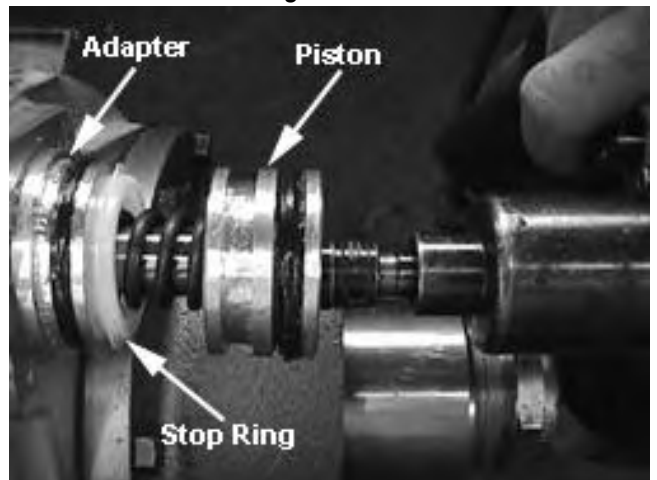

Fig. 9
8. Remove the shift shaft along with the piston, spring, and nylon stop ring, Similar to Fig. 9. If needed the shift cylinder adapter may also be removed from the case.
12. If necessary, remove the declutch shift piston from the shift shaft. See Fig. 9.